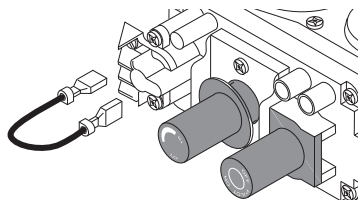

Figure 20 - Disconnecting Jumper Wires From Control Valve
1. Disconnect jumper wires from the control valve (see Figure 20).